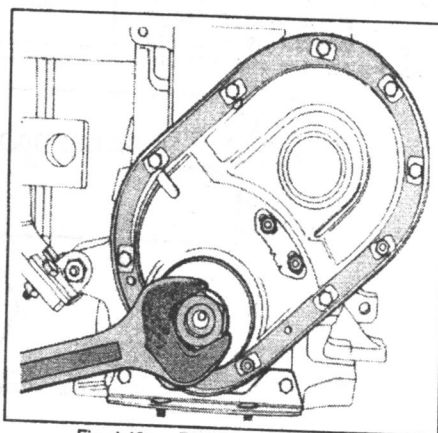

Fig. 1.40. — Fitting the front oil seal.
- Refit the timing cover with a new gasket. The cover must be centred to fit the front oil seal. A piece of tube is used to drive the oil seal in position. Insert the oil seal into the timing cover, place the tube over the oil seal and use the large crankshaft pulley nut to draw the seal in position. Insert and tighten the cover screws to 1.3 kgm (9.5 ft.lb.). Fig. 1.40 shows the operation.